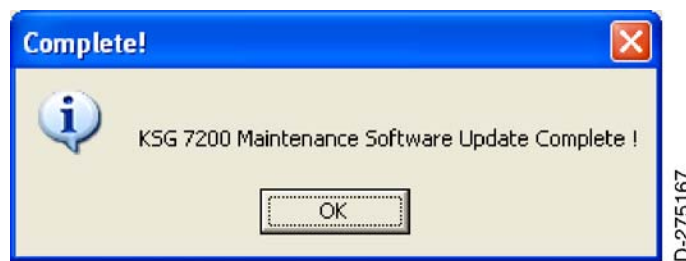

Figure 22. (Sheet 1 of 1) Complete! Window (Updated)
- (10) When the Update KSG 7200 Maintenance Software is complete, the message shown in Figure 22 will be displayed.